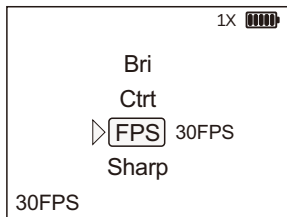

Fig 11
c. Frames per Second: From the IMG menu, press the **▽** button to enter the FPS function. Click the **OK** button to set the FPS. The FPS has two settings: 30FPS and 60FPS. Press the **△** and **▽** buttons to adjust the FPS. After selecting your FPS, press and hold the **OK** button to return to the previous menu.(See Figure 11)